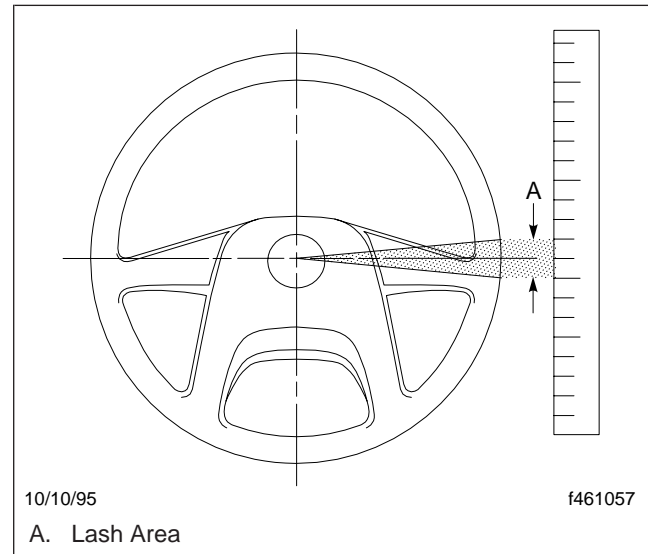

Fig. 11.13, Measuring Lash at the Steering Wheel
3. *Check the steering wheel for excessive play. See Fig. 11.13.*